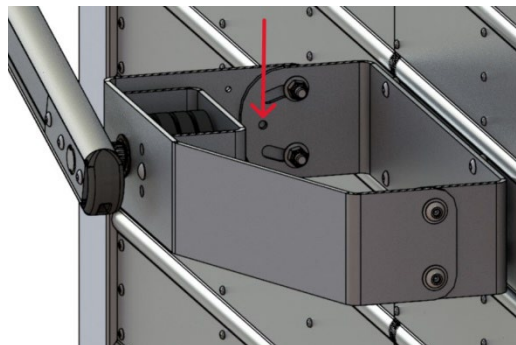

Figure 7. Hole location for final $3/8$ " bolts and nuts.
15. After all the fasteners are tightened, lock the outer bracket in place by using the pre-drilled $25/64$ " (.390") holes in the inner bracket as a guide to drill a $25/64$ " (.390") hole through each side of the outer bracket. Use two $3/8$ " bolts and lock nuts to secure the bracket and prevent it from shifting. See *figure 7*.